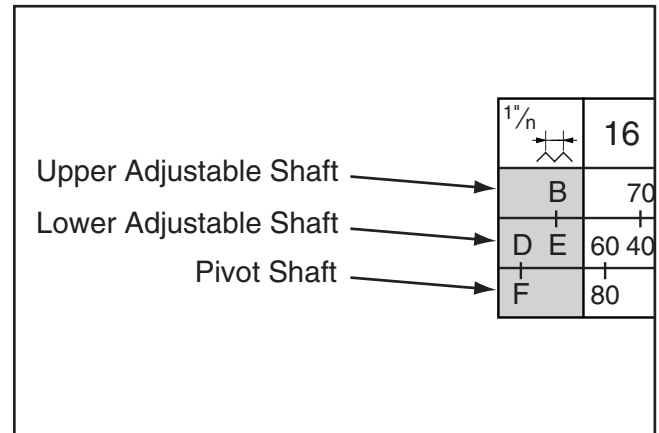

Figure 30. The shaded boxes show the thread pitches listed on this chart.
3. The boxes on the left-hand column (excluding the box in the upper left-hand corner) represent the gear positions on each shaft. These boxes are shaded in **Figure 30** and the shafts are called out with arrows.